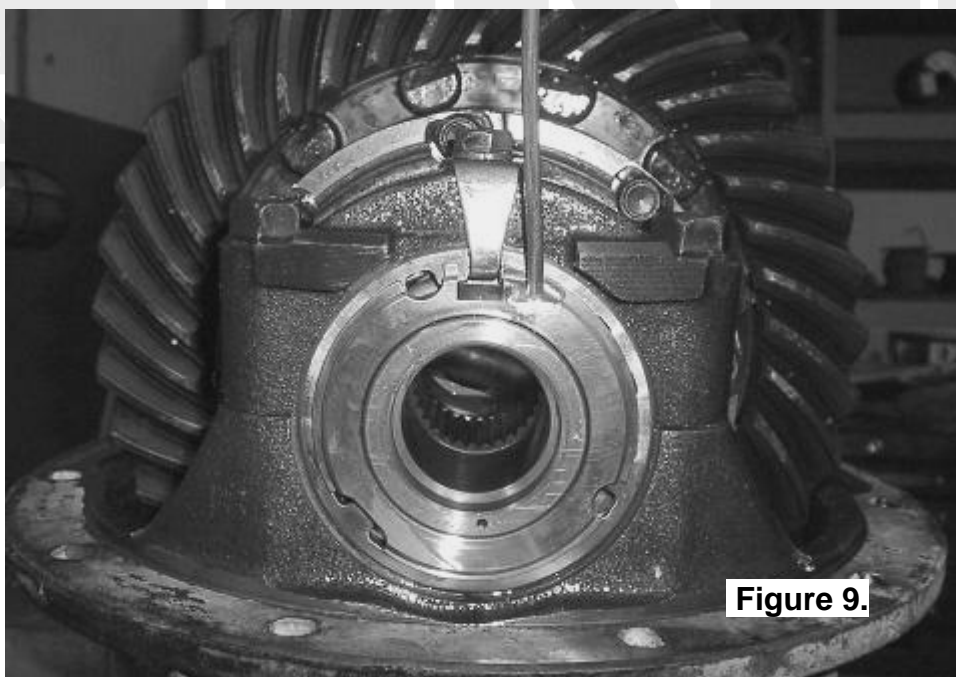

Figure 9.
- Rotate the seal housing until the square cutout lines up with the locking tab position at the center of the bearing cap, and then assemble the locking tab. (Fig.9.)